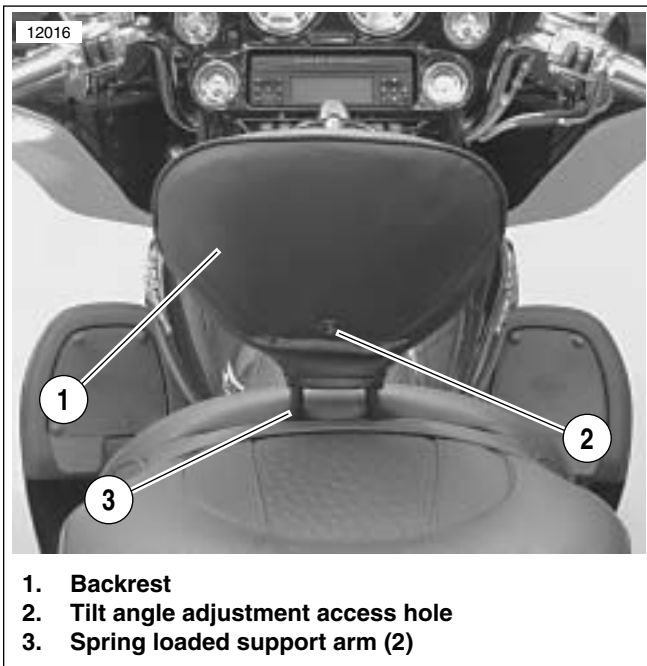
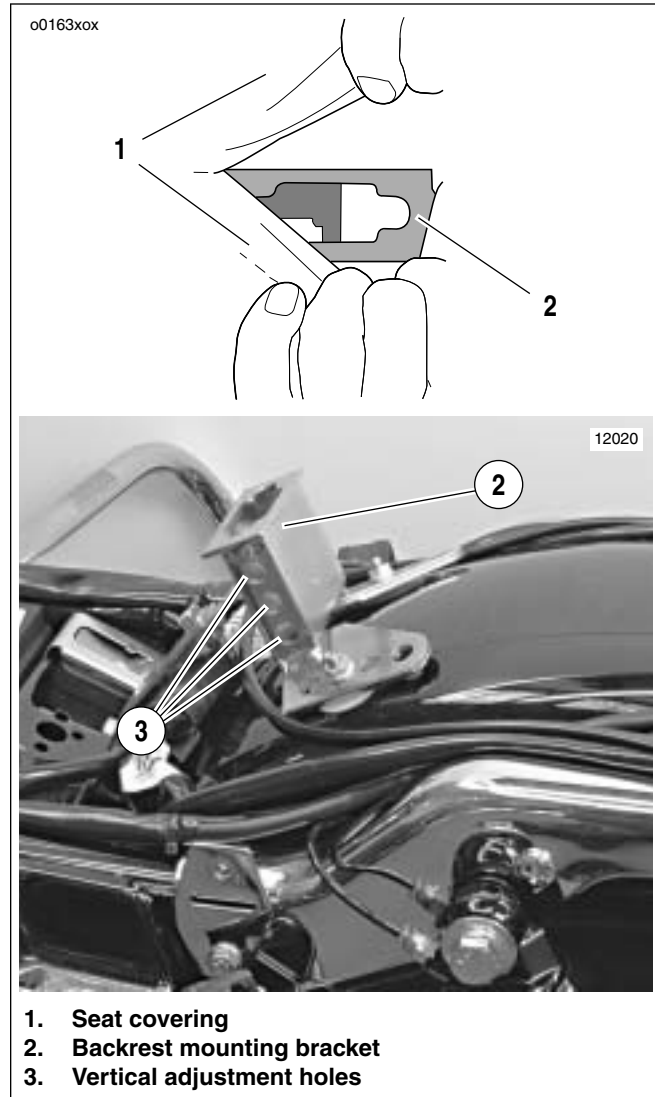

Figure 2-44. Removable Rider Backrest
Figure 2-45. Backrest Mounting Bracket
See Figure 2-44. The FLHTCUSE is equipped with a removable rider backrest. This backrest has an adjustable tilt angle. See Figure 2-45. It is also adjustable vertically, as well as horizontally (forward/aft).
1. See Figure 2-45. Spread the seat covering (1) at the base of the backrest to expose the two spring loaded support arms.
1. See Figure 2-45. Spread the seat opening to expose the backrest mounting bracket (2).
1. See Figure 2-44. See Figure 2-48. Insert a 3/16 inch Allen wrench through the tilt angle adjustment access hole.